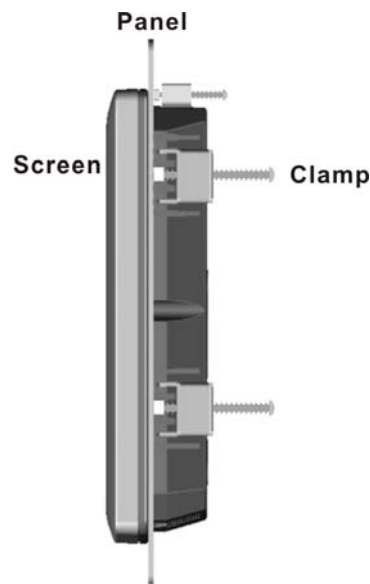

Figure 4-19: Tighten the Panel Mounting Clamp Screws
- Step 5:** Tighten the screws that pass through the panel mounting clamps until the plastic caps at the front of all the screws are firmly secured to the panel (**Figure 4-19**).